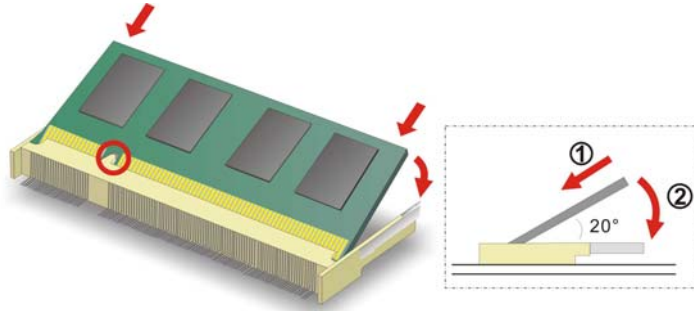

Figure 4-2: SO-DIMM Installation
Step 4: Align the notch on the memory with the notch on the memory socket. Insert the SO-DIMM in at a 20° angle. (Figure 4-2).
Step 5: Push the SO-DIMM downwards until the arms of the SO-DIMM socket clip into place and secure the SO-DIMM in the socket (Figure 4-2).